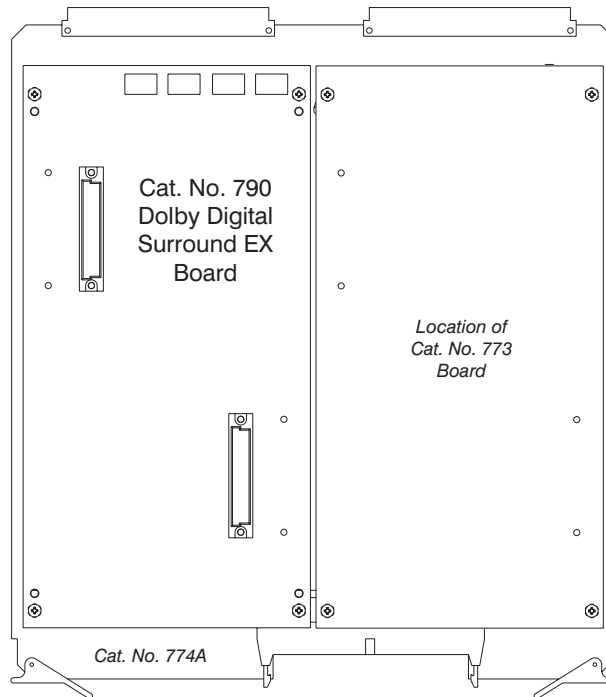

Figure 3 Mount the Cat. No. 790 Board
7. Remove the Cat. No. 790 board from its anti-static bag, and plug it into the **left-hand** side of the main board by aligning the two connectors as shown in Figure 3. Press down firmly on each side, making sure the connectors are fully seated. The board can be oriented only one way for the connectors to match.